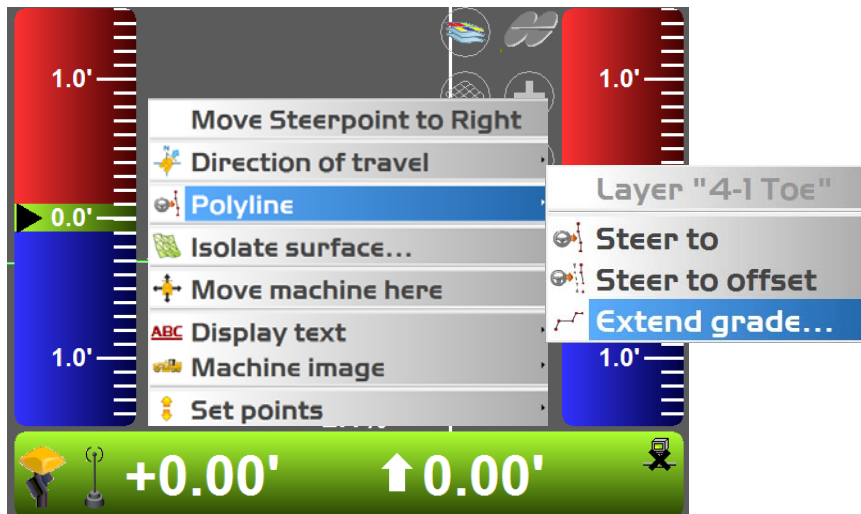

Figure 29: Grading to Polyline
2. Tap **Polyline** ► **Extend grade**; graphical cross lines display along the selected polyline (Figure 29).